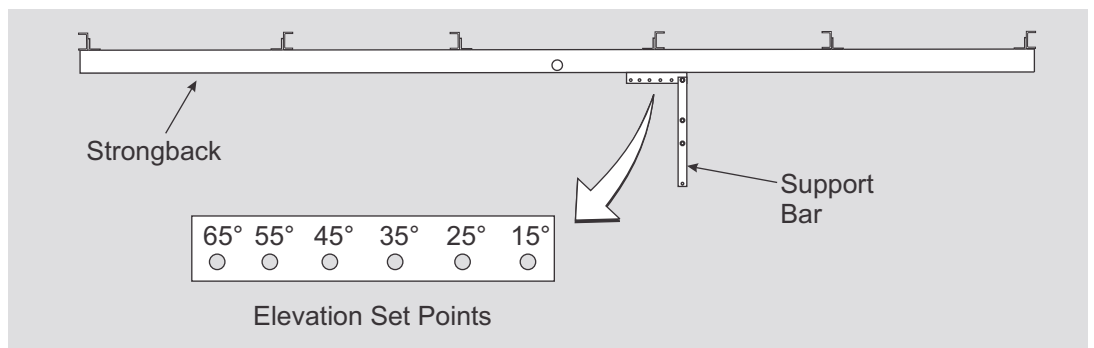

Figure 6-2: Setting the Tilt Angle
- B. Tilt the rack to the desired elevation angle (15°, 25°, 35°, 45°, 55°, or 65°) and re-attach the Support Bar to the Strongback placing the 3/8” or 1/2” hardware in the appropriate hole matching the desired elevation. **Torque at 32-34 ft.-lbs. for 3/8” hardware or 72-80 ft.-lbs. for 1/2” hardware.** (See Figure 6-2)